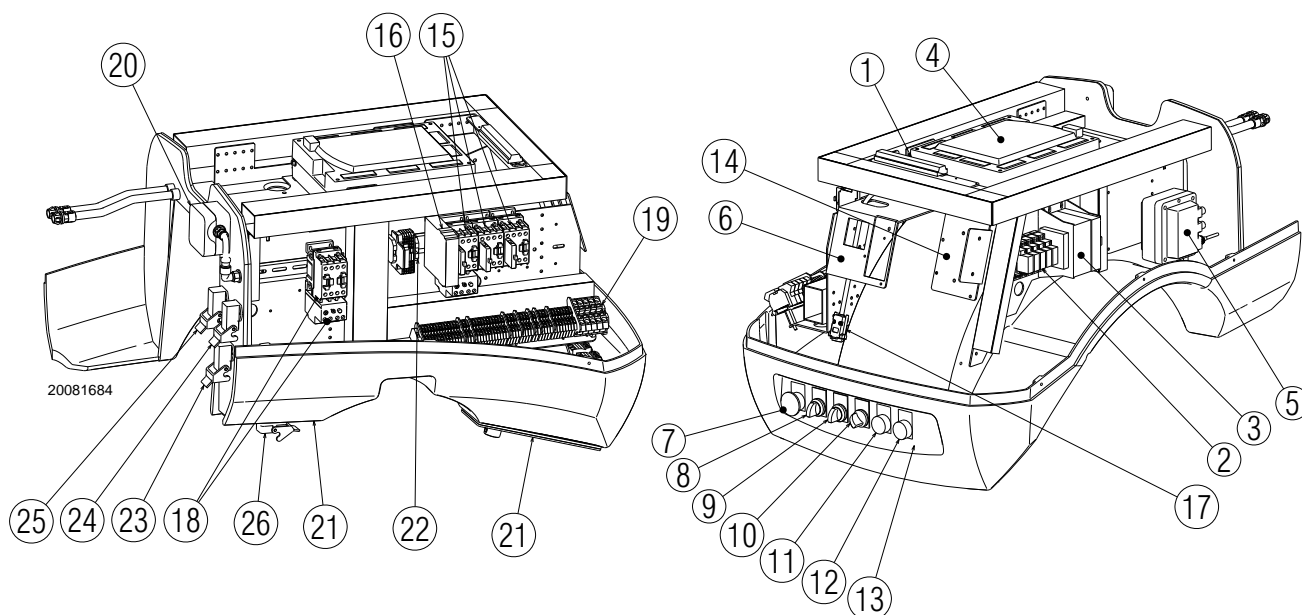

Fig. 5
- **Control box lock-out:** if the control box 13) (Fig. 5) push-button (**red led**) lights up, it indicates that the burner is in lock-out.
To reset, press the pushbutton 13) (Fig. 5).